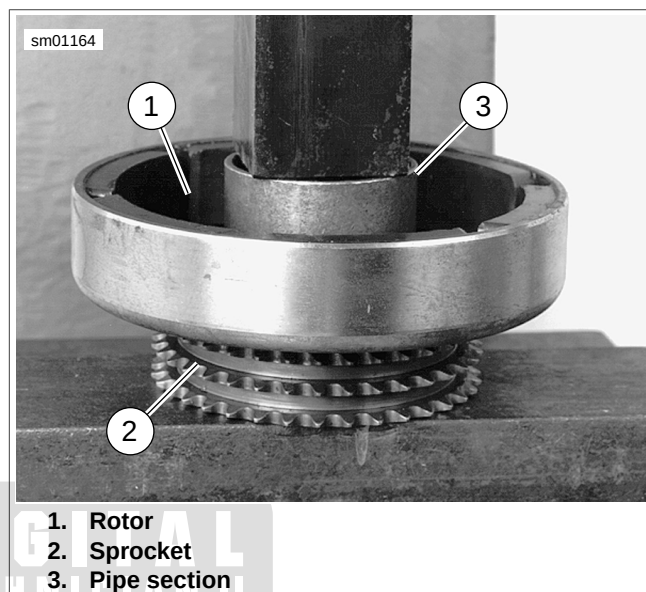

Figure 6-103. Pressing Rotor onto Sprocket
1. See Figure 6-103. Position rotor (1) on sprocket (2). Align holes in sprocket with holes in rotor. Apply a drop of LOCTITE THREADLOCKER 243 (blue) to threads of each mounting bolt. Insert mounting bolts through rotor and start bolts into tapped holes in sprocket.
2. Position a section of pipe (3) with an inside diameter larger than the sprocket mounting hub over center of rotor.